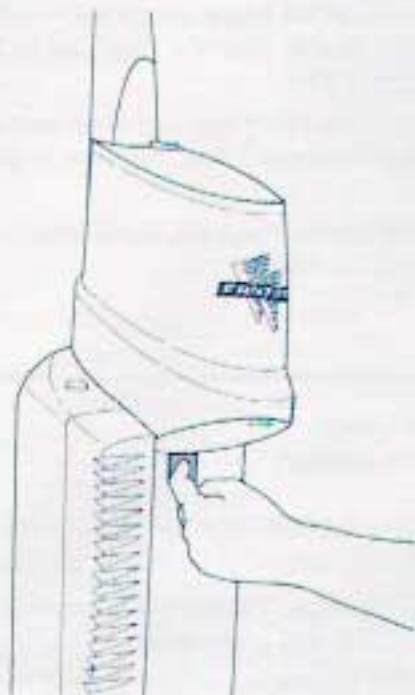

Figure 15d
10. Now, facing the front of the vacuum, look into the upper right hand side of the Bin Housing for the Cyclone Entrance Hole. Remove any debris which may have accumulated. (Figure 15d)